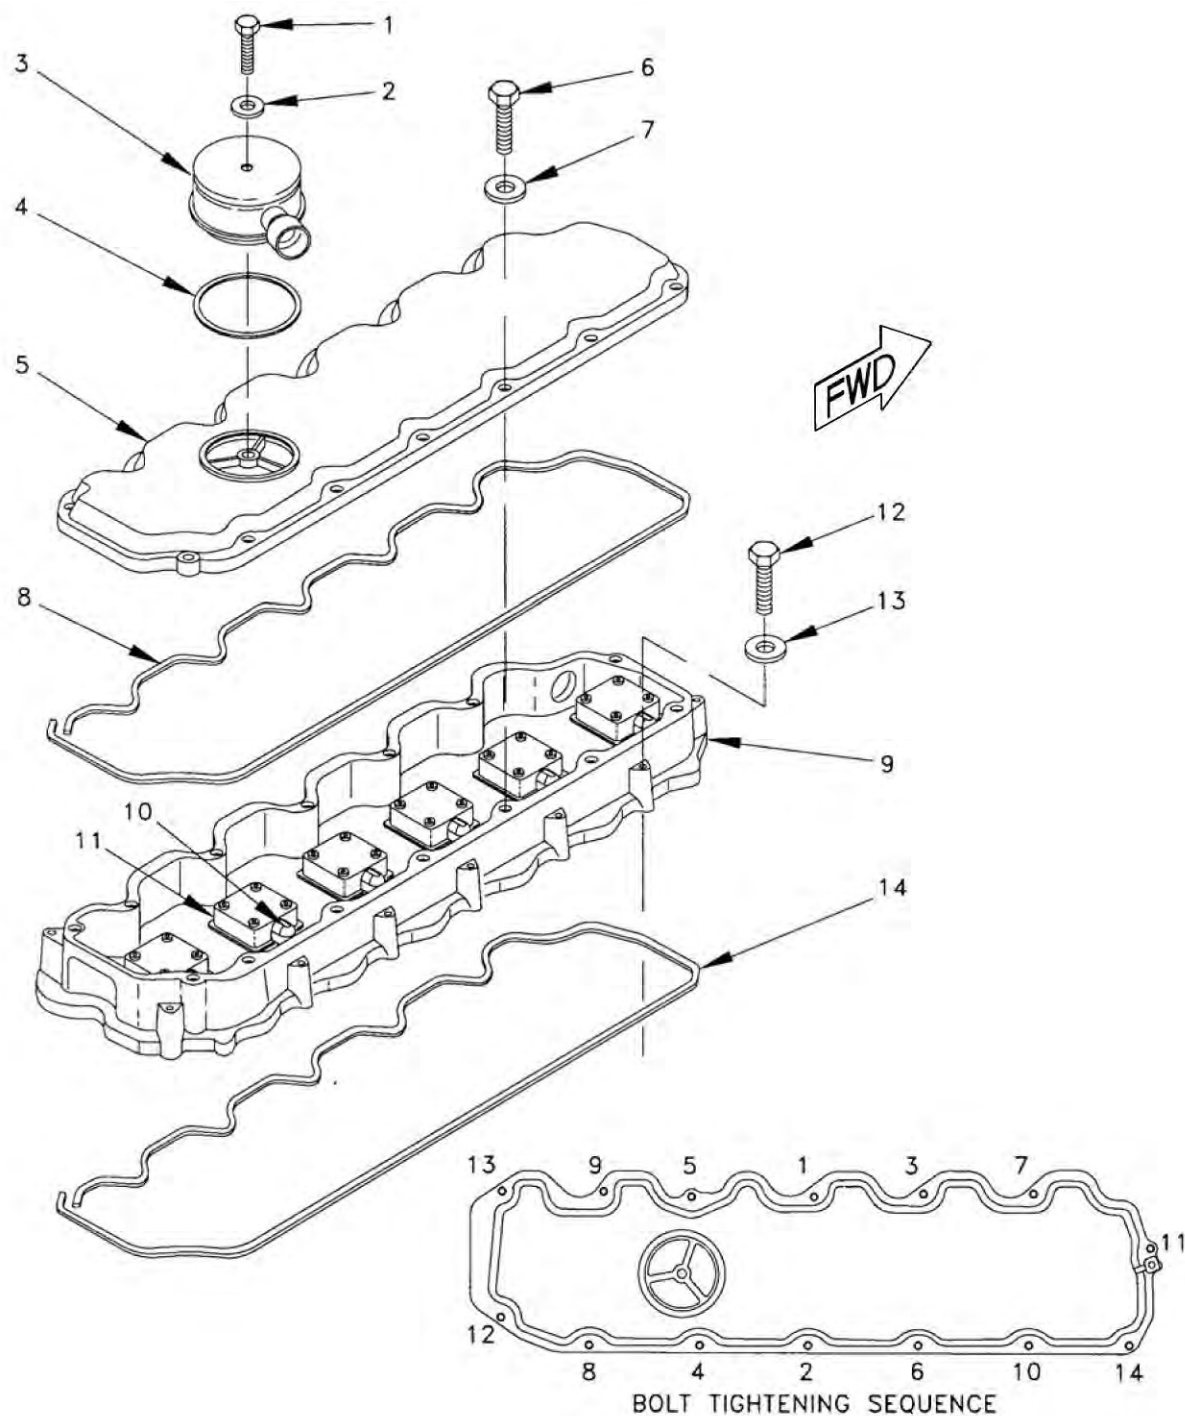

Figure 1. Valve Cover, Gasket, and Manifold.
1. Remove bolt (Figure 1, Item 1) and washer (Figure 1, Item 2), and pull breather (Figure 1, Item 3) and gasket (Figure 1, Item 4) away from valve cover (Figure 1, Item 5).
2. Remove 14 bolts (Figure 1, Item 6), washers (Figure 1, Item 7), valve cover (Figure 1, Item 5), and gasket (Figure 1, Item 8).
3. Disconnect unit injector plug from wiring harness at left front of valve cover manifold (Figure 1, Item 9).
4. Disconnect plug (Figure 1, Item 10) from each of six unit injectors (Figure 1, Item 11).
5. Remove 14 bolts (Figure 1, Item 12), washers (Figure 1, Item 13), valve cover manifold (Figure 1, Item 9), and gasket (Figure 1, Item 14).
1. Remove remaining gasket material from cylinder head, top and bottom surfaces of valve cover manifold (Figure 1, Item 9), and mating surface of valve cover (Figure 1, Item 5).
1. Apply bead of sealing compound to both sides of new gasket (Figure 1, Item 14).
2. Install gasket (Figure 1, Item 14), valve cover manifold (Figure 1, Item 9), fourteen washers (Figure 1, Item 13), and bolts (Figure 1, Item 12). Using the illustrated sequence, torque bolts (Figure 1, Item 12) to 79-133 lb•in (9-15 N•m).